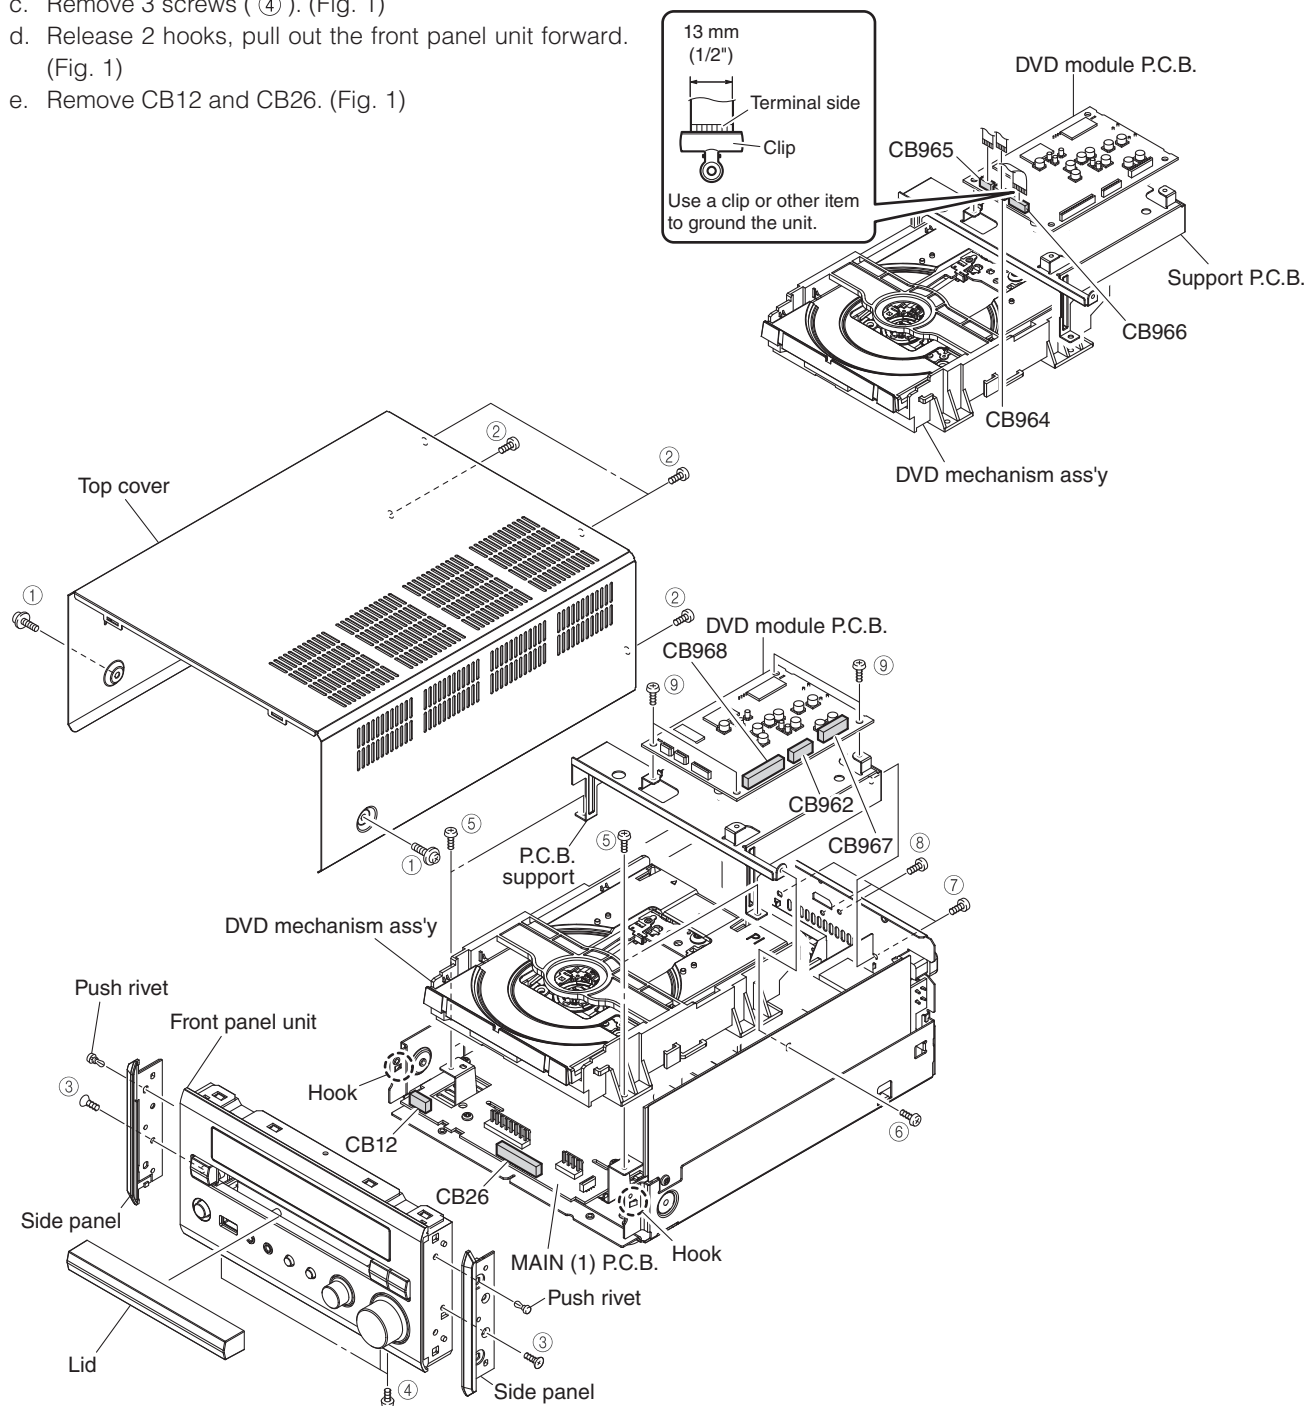

Fig. 1
- Release 2 hooks, pull out the front panel unit forward. (Fig. 1)
- Remove CB12 and CB26. (Fig. 1)
- Remove 4 screws (⑤) and screw (⑥). (Fig. 1)
- Remove 3 screws (⑦) and screw (⑧). (Fig. 1)
- Remove CN962, CN967 and CN968. (Fig. 1)
- Remove the DVD mechanism ass'y and DVD module P.C.B. together with support P.C.B.. (Fig. 1)
- Remove CN964 and CN965. (Fig. 1)
- Remove CN966, and ground the terminal face of the flexible flat cable with a clip or the like. (Fig. 1)
- Remove the DVD mechanism ass'y. (Fig. 1)